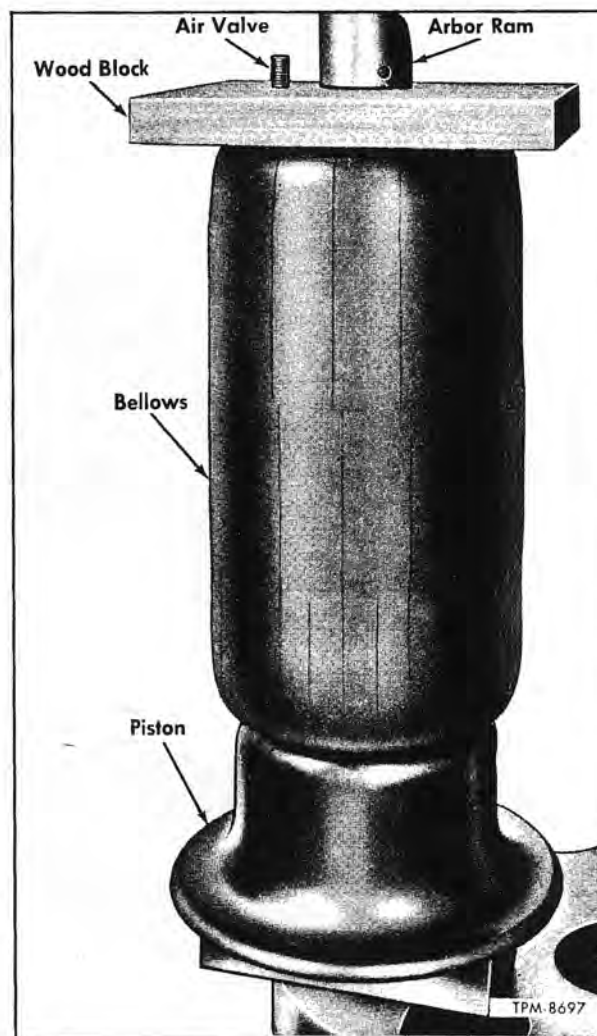

Figure 21—Forming Bellows Loop over Piston Using Arbor Press
(fig. 21) with two studs in lower retainer astride a block so that assembly will rest against retainer and piston.
8. Install locally made block over top of bellows assembly with upper retainer studs through holes in block (fig. 21).